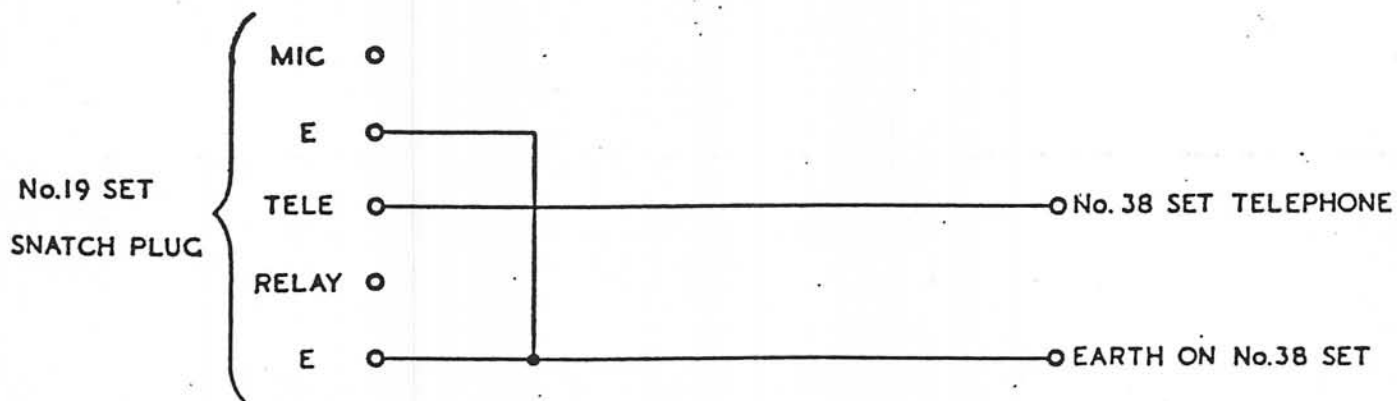

Fig. 9—How to connect 19 and 38 sets for retransmission
- Fig. 9. Churchill I and II Tank—External view of turret nearside.